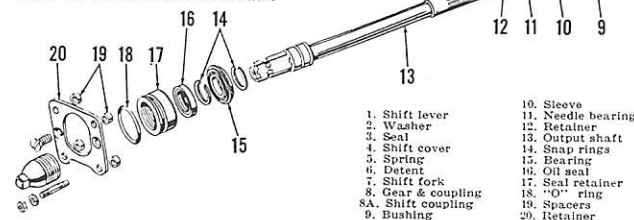

Fig. 254—Exploded view of pto output shaft and associated parts.
228. To remove the pto output shaft, drain the transmission and hydraulic system fluid and unbolt rear bearing retainer (20—Fig. 254) from rear axle center housing. Withdraw shaft (13), rear bearing (15) and seal housing (17) as an assembly.
To remove the driven gear (8—Fig. 254) after drive gear is out, remove the hydraulic pump as outlined in paragraph 251, remove pto shift cover (4) and slide the gear forward out of bushing (9). Assemble by reversing the disassembly procedure.